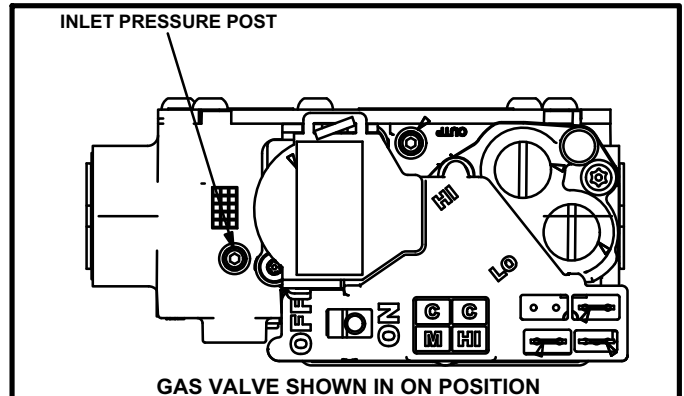

FIGURE 2
Operating the Gas Valve (Figure 2)
- 6 - Move switch on gas valve to **OFF**. See figure 2.
- 8 - Move switch on gas valve to **ON**. See figure 2.